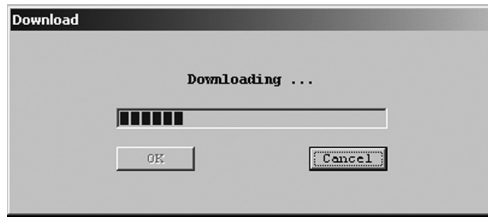

Fig.95
- ⑤ Downloading the data will result in changes in parameter settings. The output levels from the flowmeter will also change accordingly. For safety's sake, therefore, it is suggested that the control loop be switched to manual to avoid possible influence of output variation.
- ⑥ Starting the downloading by clicking on "OK" button brings out a message box as shown in Fig. 95. The bar graph at the center of message box tells you the progress of downloading.